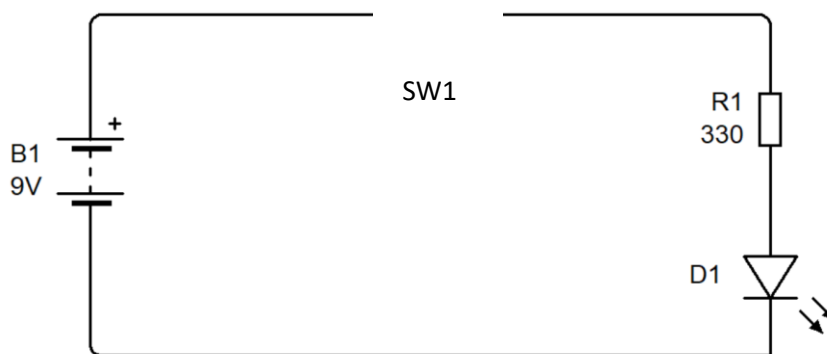
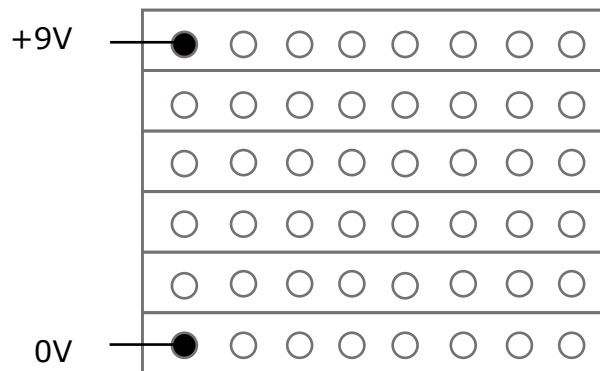

Figure 10
Figure 11
Figure 10 shows an electronic circuit diagram to be used inside the solar system model.
- a. An LED is an abbreviation for: Light (1)
- b. Complete the electronic circuit diagram in Figure 10 by drawing a SPST type switch SW1. (1)
- d. Calculate the current flowing in the circuit shown in Figure 10, if the voltage drop is 6.6V. Include the unit with your answer.
- e. Look again at the circuit in Figure 10. On the strip board template given in Figure 11, draw the component layout of the circuit. Label the power supply leads. Draw all the answers on Figure 11.